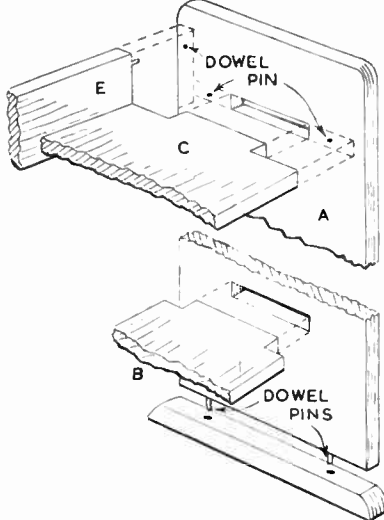

Fig. 3—Details of shelf and foot joints
Both these pieces are fitted into the sides by the open mortise and tenon joint, shown in detail in the constructional diagram, Fig. 3.
When the tenons have been glued into the uprights some dowel pins may be driven in to strengthen the joint (see Fig. 3) where the shelf (C) is to run into the upright (A).
length measurement is given for these, and a thicker piece of wood could be got for these than $\frac{3}{8}$ in. Then the dowel pins which hold them have a better fixing. See Fig. 3 for the method of fixing the dowels. Some workers may desire the simpler method of screwing. The falling front (D) should next be